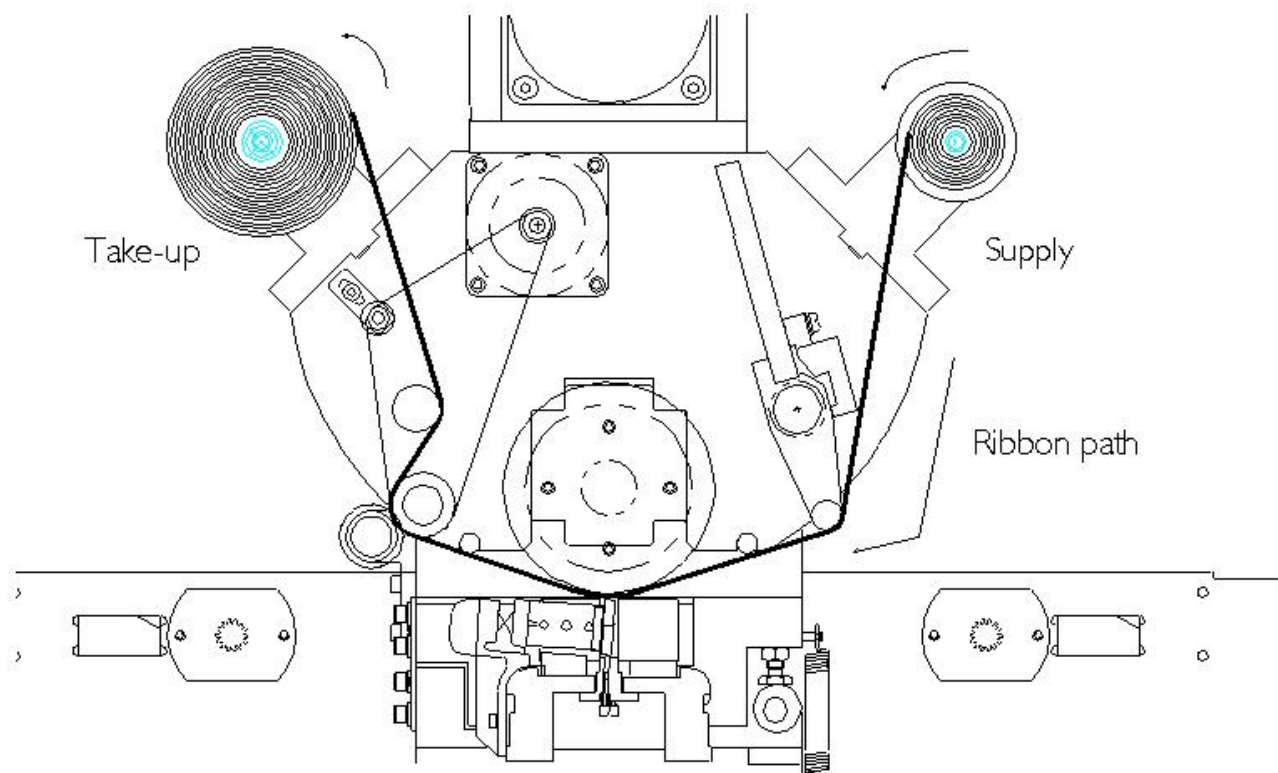

Figure 3.4 Ribbon Path
- F. The ribbon should unroll from the bottom over the buffer arm and under the drum with the ink face down, as shown in Figure 3.4.
- H. Allow the ribbon to wind from the top with the ink towards the core as shown in Figure 3.4.